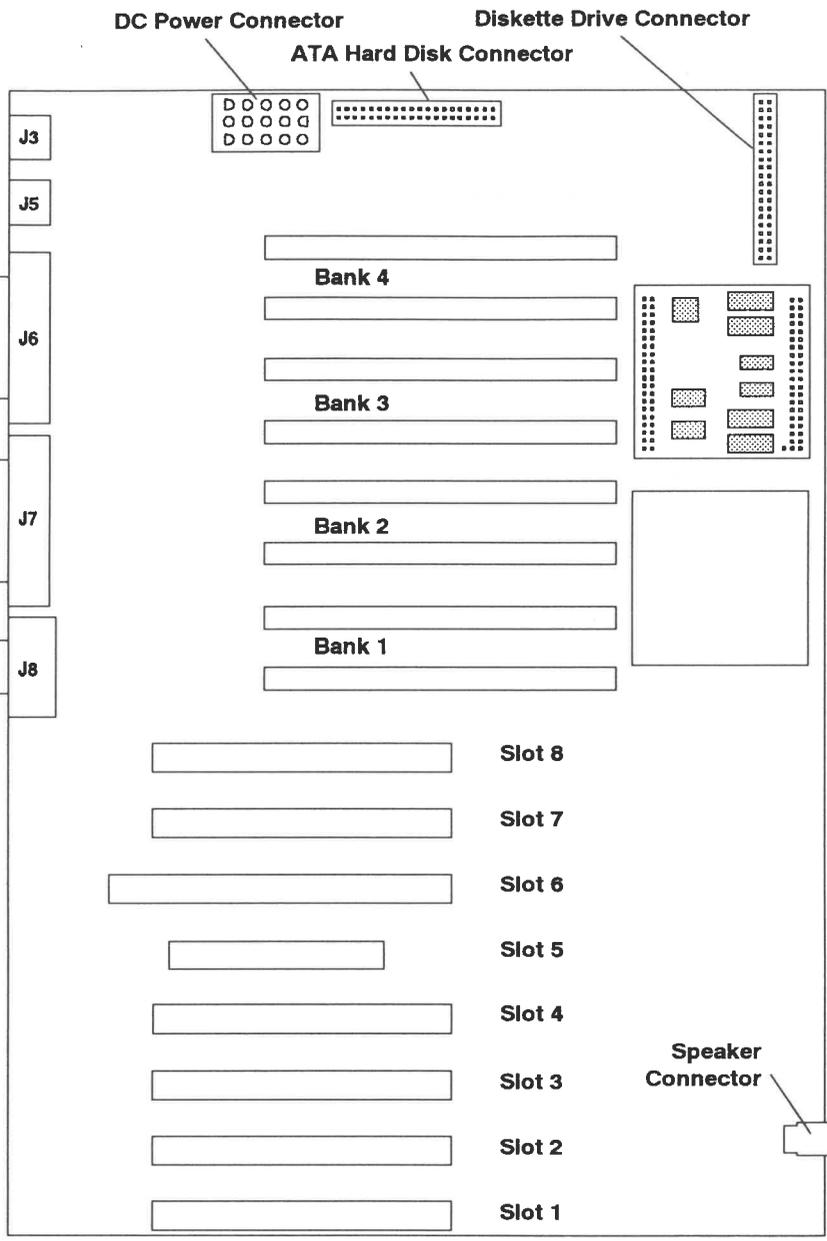

Figure 2-12 Reply System Board Connector Locations
6. Plug the power supply cable into its corresponding connector on the Reply system board (see Figure 2-12).
16. Connect the diskette drive cable to connector J6 on the Reply system board (see Figure 2-12).
17. If you have installed Reply optional ATA hard disk drives, connect the interface cable to connector J1 on the Reply system board (see Figure 2-12).